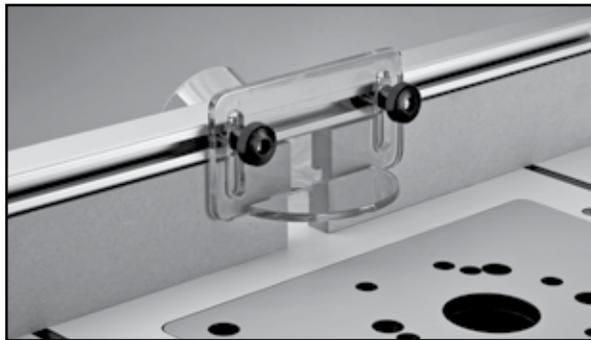

Fig. 16
18. Attach the bit guard to fence. **Fig. 16**. Pre-assemble the guard with the two 5/16-18 x 1 1/4" hex bolts (6) and two knobs (7). Slide both bolt heads into the fence's T-slot to attach to fence.